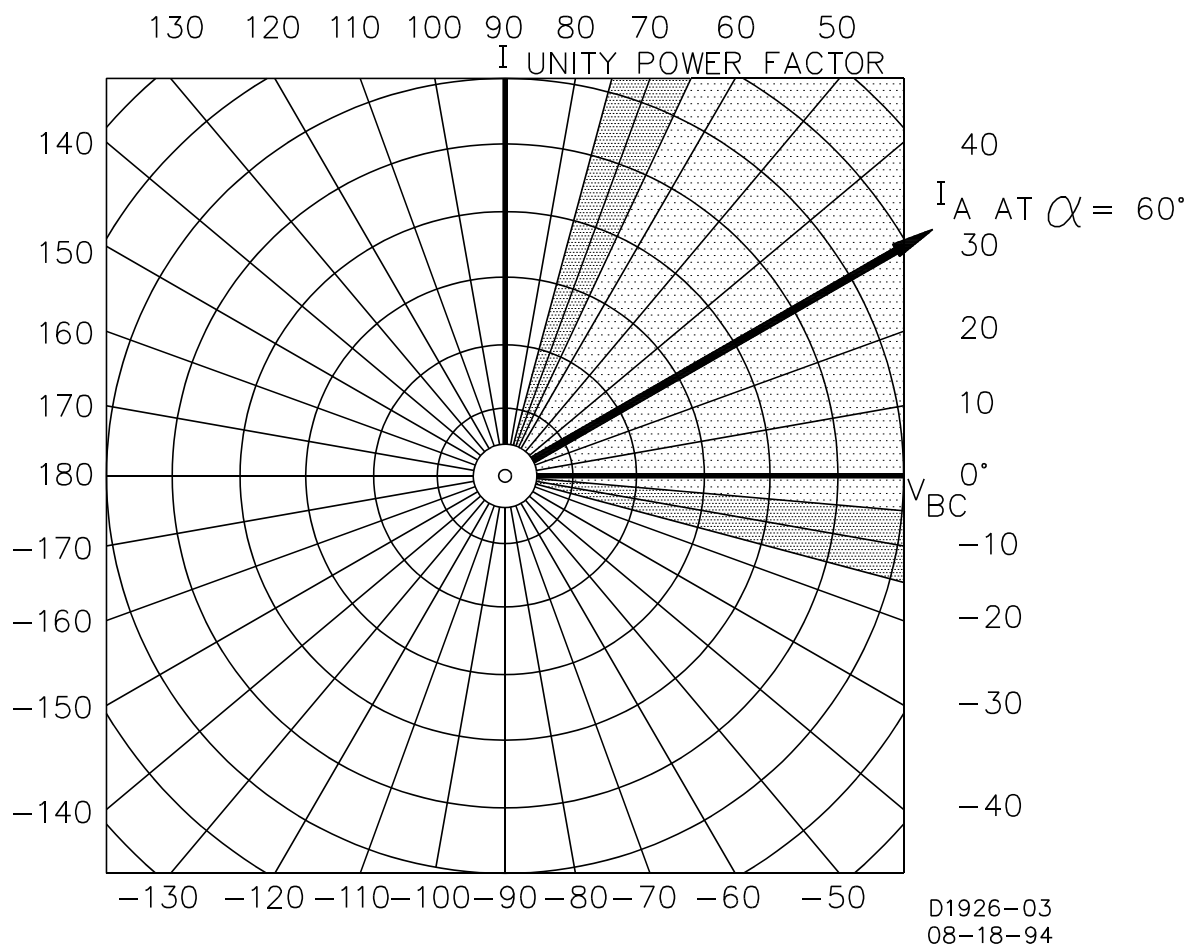

Figure 5-14.  $\alpha = 60^\circ$ , Limited Range of Operation =  $40^\circ$
- Step 3. Vary the applied current phase angle through  $360^\circ$  and record the angle values at which the appropriate phase INHIBIT LED turns ON and OFF. Plot the results on a polar coordinate graph for future reference. The resultant plot should look like Figure 5-14.